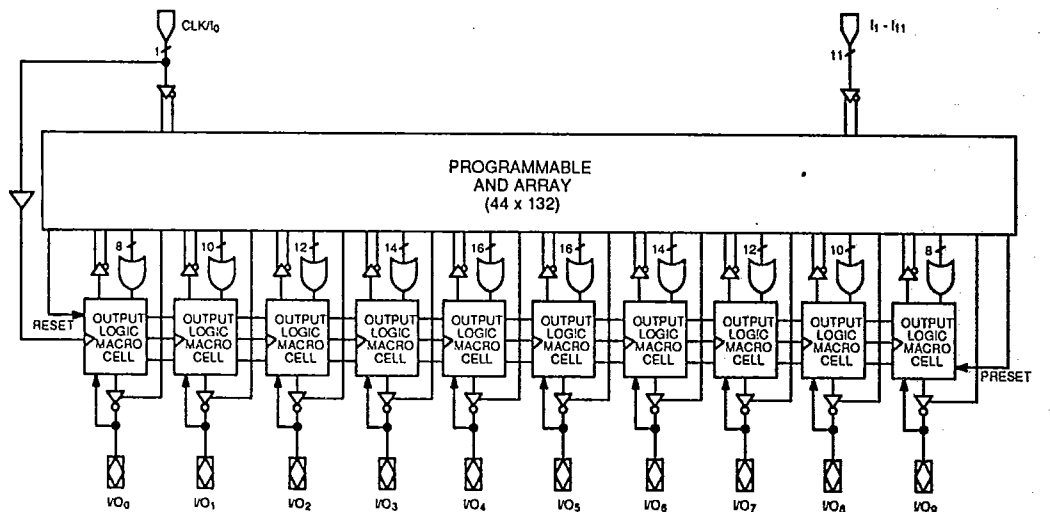

Figure 1. Block Diagram
The PAL22V10 has 12 inputs and 10 I/O macrocells (Figure 1). The macrocell allows one of four potential output configurations; registered output or combinational I/O, active high or active low (see Figure 2). The configuration choice is made according to the user's design specification and corresponding programming of the configuration bits $S_0 - S_1$. Multiplexer controls are connected to ground (0) through a programmable bit, selecting the "0" path through the multiplexer. Program-